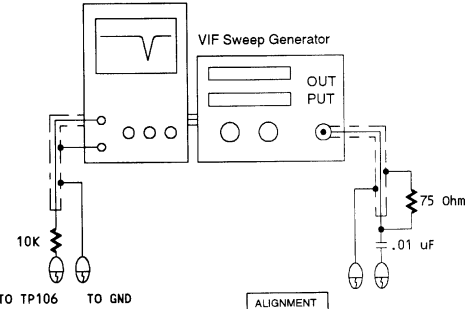

Fig.2
A. PREPARATION STEP (SEE FIG.2)